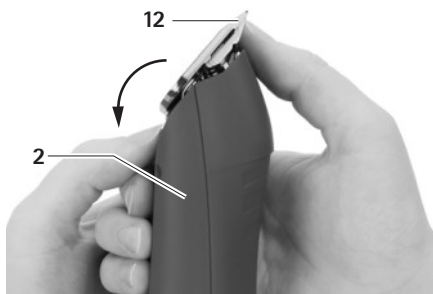

Fig. 5
- Fold forward shearing head 12, see Fig. 5.